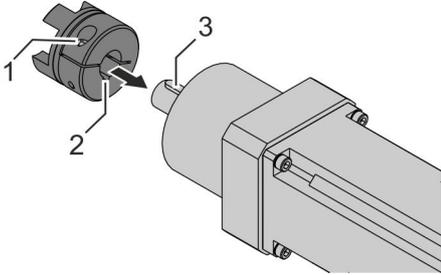

Fig. 32: Assembling the clamping hub
**4.** Slide the coupling's clamping hub (Fig. 32/2) onto the motor's motor shaft (Fig. 32/3).
**5.** Tighten the screw (Fig. 32/1) on the clamping hub: